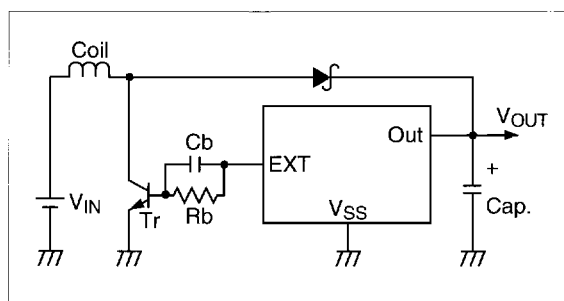

Figure 2. TC182BXX
- 2B: External (see Fig. 2)
**TC182B30:**  $V_{OUT} = 3V$ ,  $V_{IN} = 2V$ ,  $V_{SS} = 0V$ ,  $I_{OUT} = 10mA$ ,  $T_A = 25^{\circ}C$ , unless otherwise specified. (See Fig. 2)
**TC182B50:**  $V_{OUT} = 5V$ ,  $V_{IN} = 3V$ ,  $V_{SS} = 0V$ ,  $I_{OUT} = 10mA$ ,  $T_A = 25^{\circ}C$ , unless otherwise specified. (See Fig. 2)